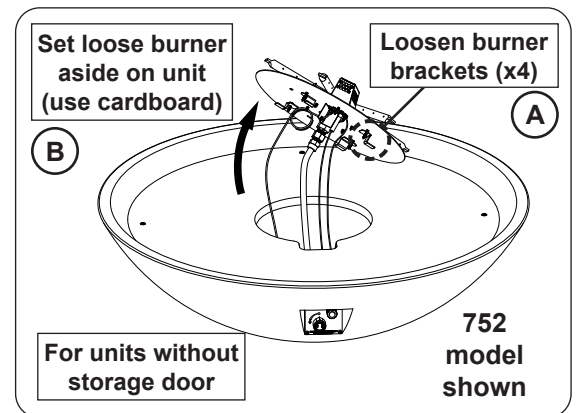

Fig. 29-3 Gain access to interior of unit (if needed)
For models without a storage door, use a $5/16$ " nut driver to loosen the 4 screws found on the burner assembly (see Fig. 29-3, A).
3. Carefully lift out the burner just enough to set it off to the side (see Fig. 29-3, B).